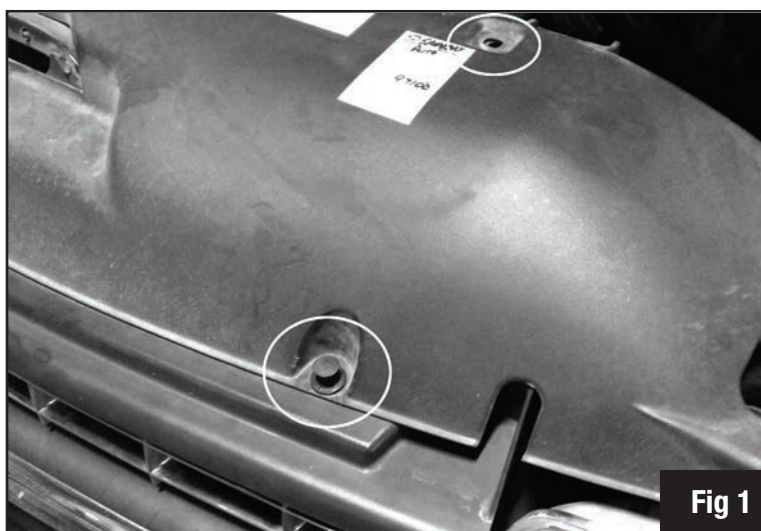

Fig 1
1) Remove (7) plastic clips holding radiator support cover on *Fig 1*.